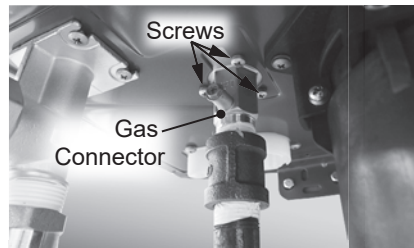

Figure 66 - Gas connector location
- 3 Locate the gas connector on the bottom of the water heater. See Figure 66. Disconnect the gas line to the water heater.
- 12 Locate the three (3) screws securing the gas connector to the base of the base of the cabinet. Use a Phillips screwdriver to remove the screws and place them aside in a safe place for reinstallation. See Figure 66.